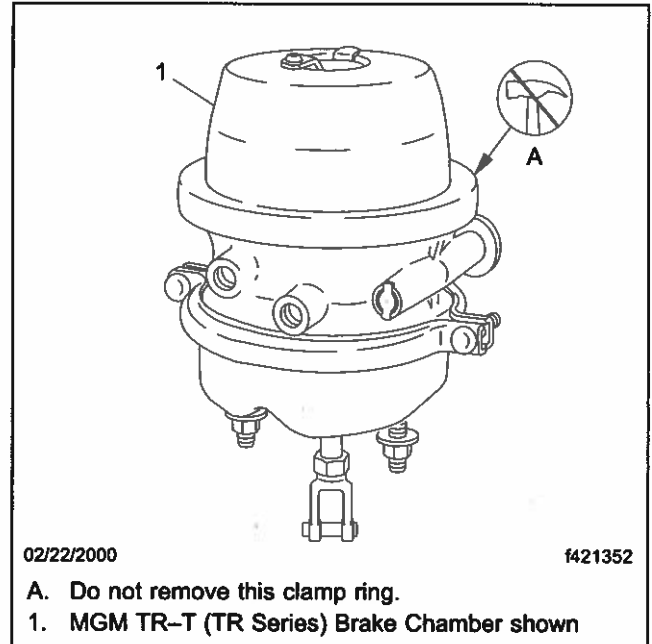

Fig. 11.8, Parking Brake Chamber Clamp
- 22.5 On all parking brake installations, make sure the end cover cap or dust plug is securely snapped into place. See **Fig. 11.8**.